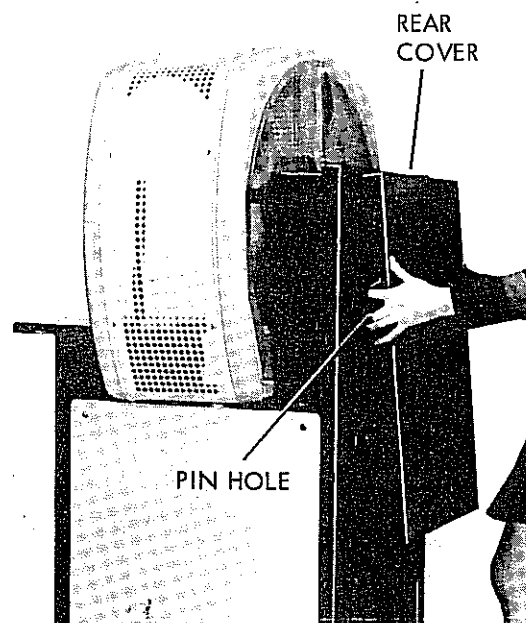

Figure 22. Installing Rear Cover
13. Position rear cover on tying machine taking care to align rear cover pin holes with tying machine frame pins. Press rear cover forward to fully seat in position (figure 22).